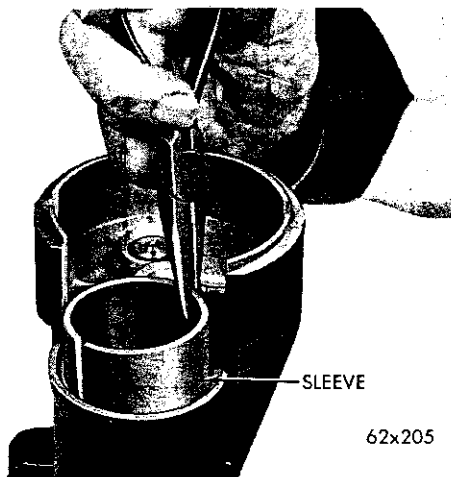
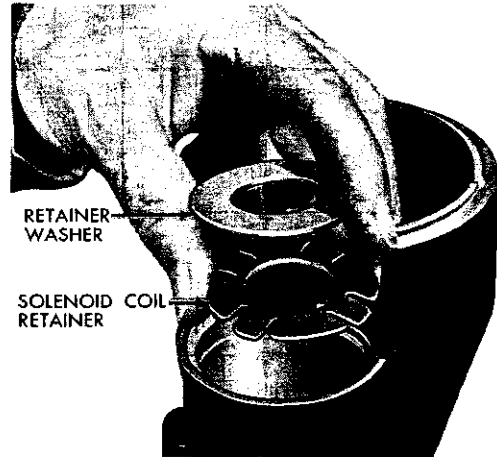

Fig. 26—Removing Solenoid Coil Sleeve
Fig. 27—Identification of Solenoid Coil Retainer and Retainer Washer
- (17) Remove the solenoid coil sleeve (Fig. 26).
- (18) Remove the solenoid return spring from the well of the solenoid housing moving core.
- (19) Remove the solenoid coil retainer washer and solenoid coil retainer from the solenoid housing (Fig. 27).
(9) Install the solenoid coil retainer (Fig. 27) (with tangs down).